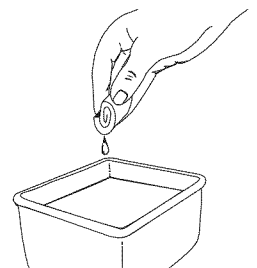

Fig. 25
3. Wash the filter in detergent and water (Fig. 25). Rinse the filter thoroughly and allow it to dry.
- Reinstall the air filter cover. Position the slots on the top of the air filter cover onto the tabs at the top of the back plate (Figs. 25 & 29).